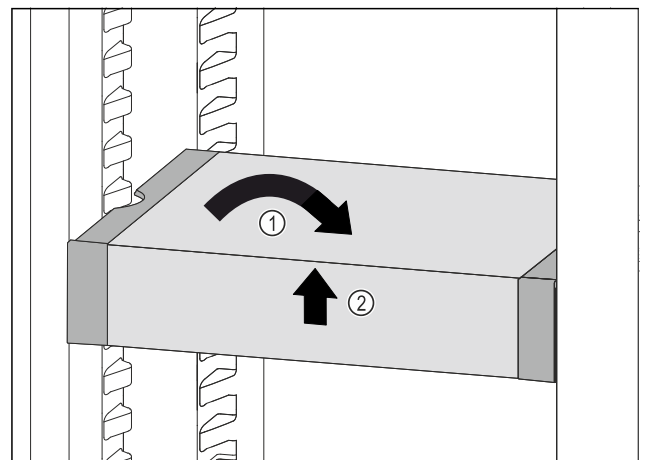

Fig. 91
- Set VarioSafe straight. Fig. 91 (1)
- Lift VarioSafe at the front. Fig. 91 (2)